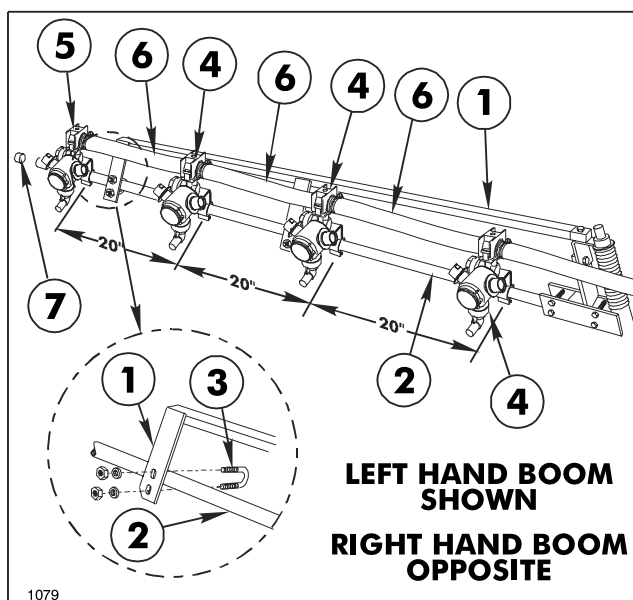

Figure 7
15. Secure the two plates of the Boom Support Assembly to the Extension Boom Pipe, using two (2) 1/4" U-bolts, four (4) lock nuts and flat washers. (See FIG. 7.)
18. Attach three Double Barb Turret Bodies and one Single Barb Turret Body with Clamp Assemblies on each Extension Boom Pipe as shown in FIG. 7.
19. Level Nozzles and space 20" apart. Connect the Turret Body Assemblies with 3/4" x 19" Jumper Hoses and a 3/4" x 21" Jumper Hose. Secure with hose clamps. (See FIG. 7.)